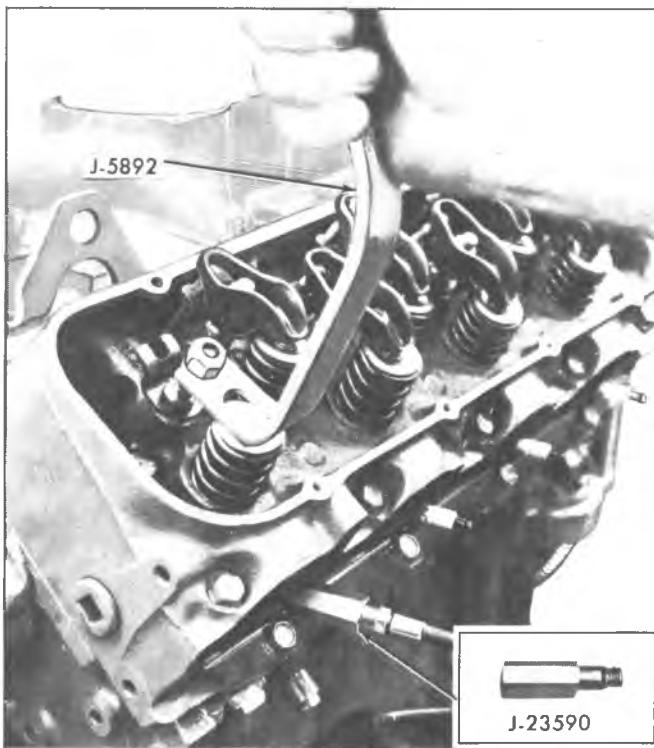

Fig. 9V—Compressing Valve Spring
4. Using Tool J-5892 to compress the valve spring, remove the valve locks, valve cap and valve spring and damper (fig. 9V).